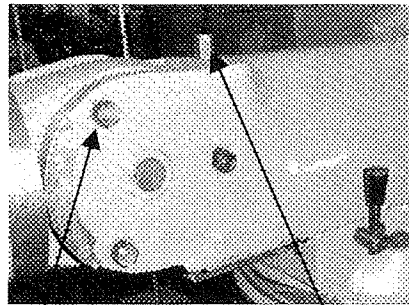

Figure 14
i. Tilting the Headstock (Fig. 14):